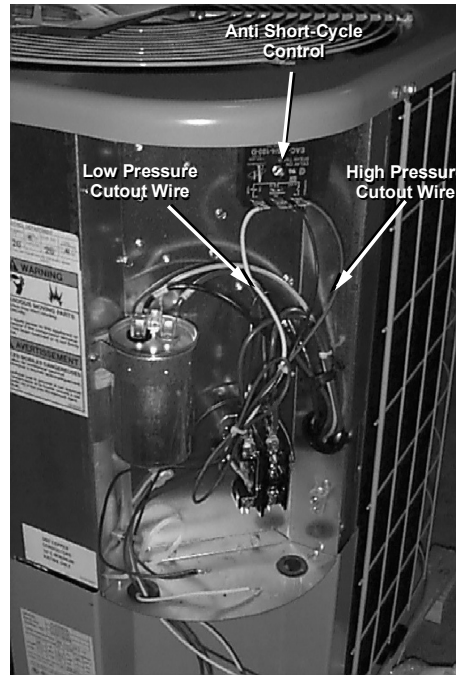

Figure 2
3. Mount the anti-short cycle control "upside down" in the filler hole (Figure 2). Ensure the control terminals are at the bottom. Secure the control using the large screw supplied in the kit.